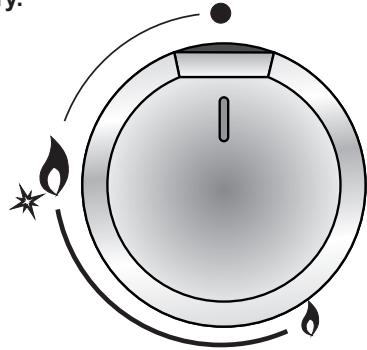

Fig. 2.1
Gas flow to the burners is adjusted by turning the knobs (illustrated in fig. 2.1) which control the safety valves.
1. Press in the corresponding knob and turn counter-clockwise (fig. 2.2) to the full flame position marked by the “” symbol (fig. 2.1); press and hold the knob to light the burner (the green indicator light on the knob will blink to show that burner ignition is in progress).